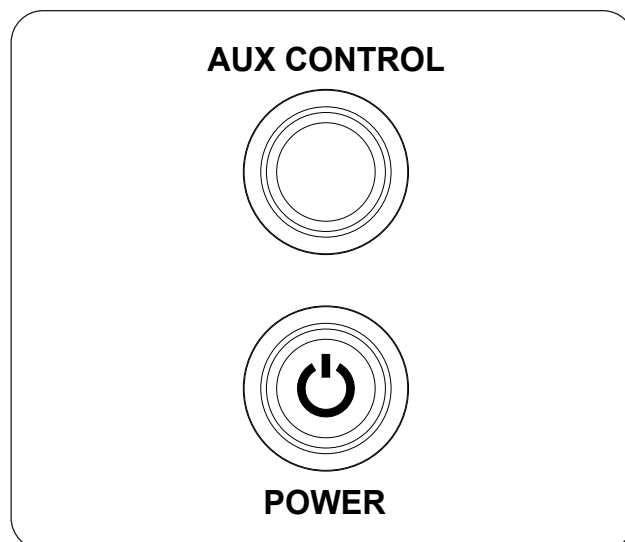

Fig. 35-1 Manual Operation:
1. Locate the control panel on the side of the unit (refer to the IDENTIFICATION PARTS LIST if needed), and identify the **AUX CONTROL** and **POWER** buttons (see Fig. 35-1).
To shut down the burner (system will remain on), push the **AUX CONTROL** button (see Fig. 35-1).
To shut down the burner and system (total shutdown), push the **POWER** button (see Fig. 35-1).